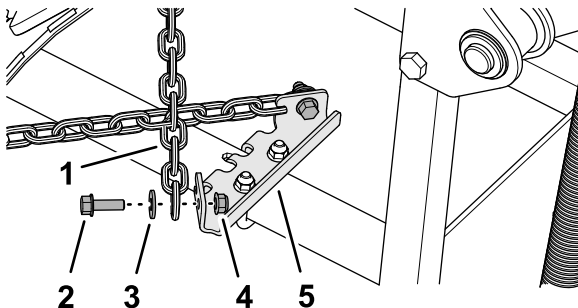

Figure 14
1. Cross the attached chains from the (Figure 14) over the drawbar.
3. Assemble the chain to the stop bracket with a flange-head bolt (5/16 x 1 inch), washer (3/8 x 7/8 inch), and flange locknut (5/16 inch) as shown in Figure 14.